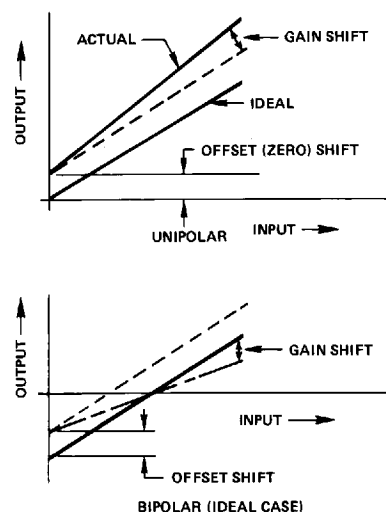

Figure 3. Unipolar and Bipolar Drifts
Temperature error analysis in the unipolar mode is straightforward: there is an offset drift and a gain drift. The offset drift (which comes from leakage currents and drift in the output amplifier (OA)) causes a linear shift in the transfer curve as shown in Figure 3. The gain drift causes a change in the slope of the curve and results from reference drift, DAC drift, and drift in R_{GAIN} relative to the DAC resistors.
Note that if the DAC and application resistors track perfectly, the bipolar offset drift will be zero even if the reference drifts. A change in the reference voltage, which causes a shift in the bipolar offset, will also cause an equivalent change in I_{REF} and thus I_{DAC} , so that I_{DAC} will always be exactly balanced by I_{BP} with the MSB turned on. This effect is shown in Figure 3. The net effect of the reference drift then is simply to cause a rotation in the transfer around bipolar zero. However, consideration of second order effects (which are often overlooked) reveals the errors in the bipolar mode. The unipolar offset drifts discussed before will have the same effect on the bipolar offset. A mismatch of R_{BP} to the DAC resistors is usually the largest component of bipolar drift, but in the AD DAC80 this error is held to $10\text{ppm}/^{\circ}\text{C}$ max. Gain drift in the DAC also contributes to bipolar offset drift, as well as full scale drift, but again is held to $10\text{ppm}/^{\circ}\text{C}$ max.